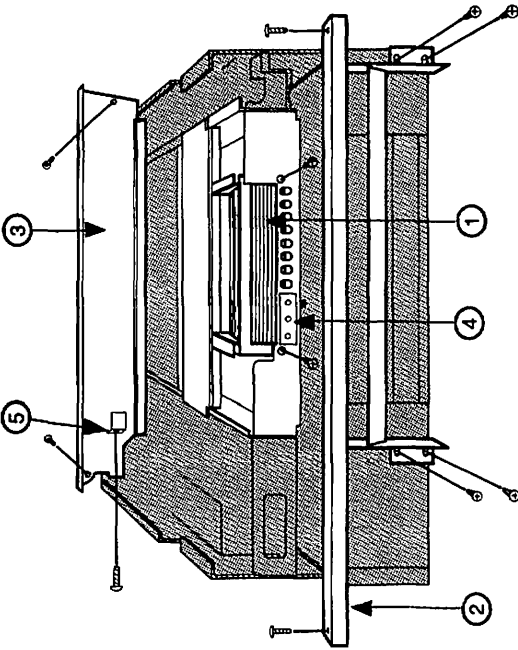

FIGURE 2-13
4. Put the fan cover (see Figure 2-13, #3) into place (try different positions until you are sure it fits correctly: the tab for the side screw (see Figure 2-13, #5) fits outside the chassis frame) and install the three screws.